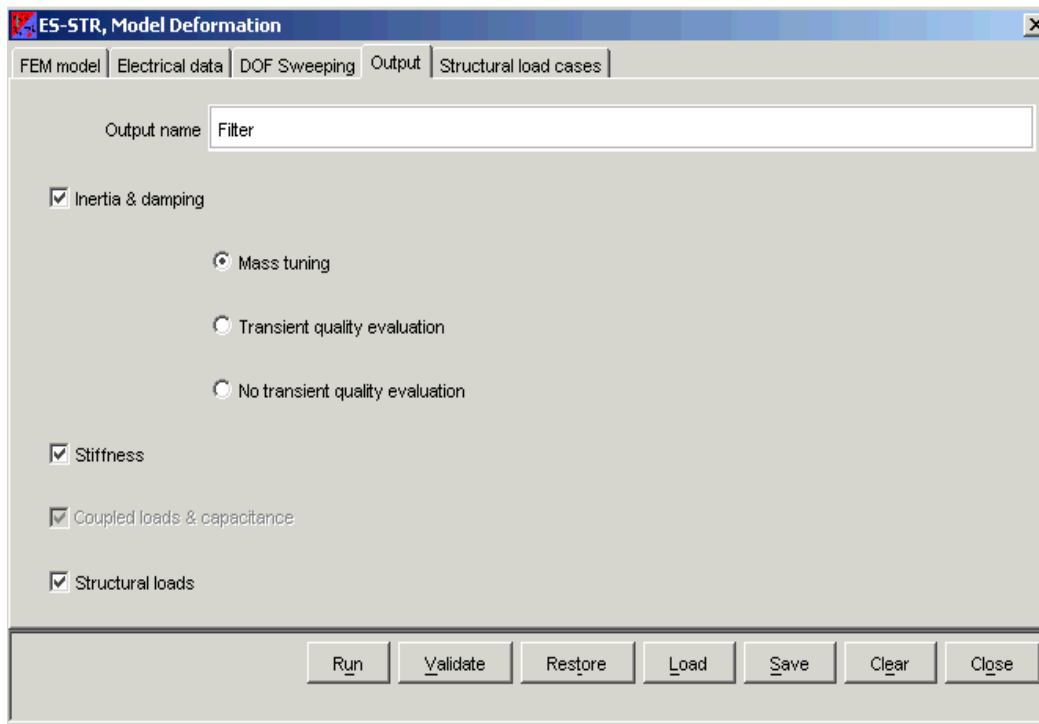

Figure 116: **Output** tab
- In the **Output** tab, set the output model name and the behavior you need in the model, as shown in (Figure 116).